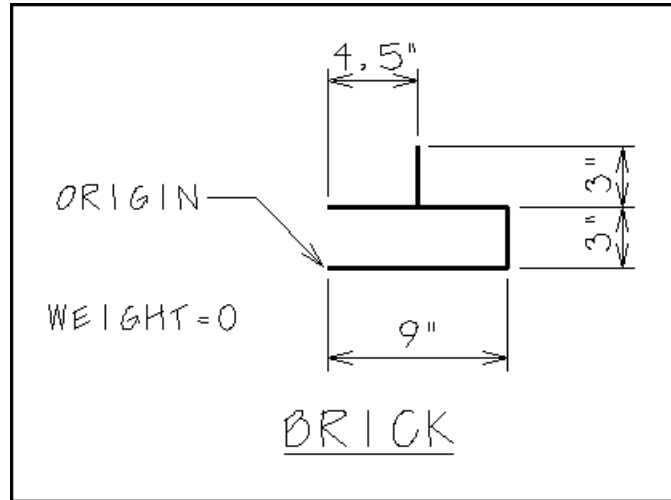

Figure P12-3 Brick pattern cell construction
STEP 8: Use Figure P12-3 as a guide to draw the brick pattern.
Note: The brick pattern lines are wider than weight zero in Figure P12-3 to make them easier to distinguish from the dimensions. Do *not* draw any of the dimensions or text.